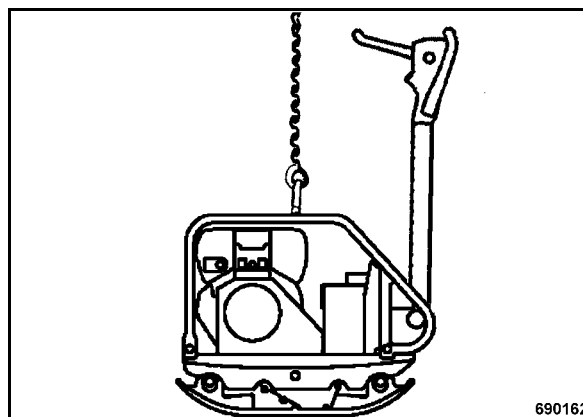

Fig. 32
- Always attach the lifting gear (rope) to the lifting eye to load the vibratory plate on a transport vehicle (Fig. 32).